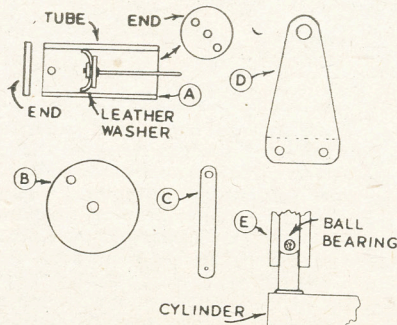

Fig. 4—Detail of the parts
The motor drives the crank through a belt reduction drive, though gearing could be used if suitable parts are to hand. The axle is pivoted in two stout brackets, which may be bent up as shown in Fig. 4 (D). Washers or bushes soldered on prevent sideways movement of the axle.
A section through the cylinder and piston is shown at (A) in Fig. 4. As the piston is withdrawn, air passes round the leather washer. When the piston is being forced inwards, however, the washer is expanded by the air against the walls of the cylinder, thus assuring that the air passes out through the hole at the end of the cylinder. The leather washer should not be a tight fit, and it